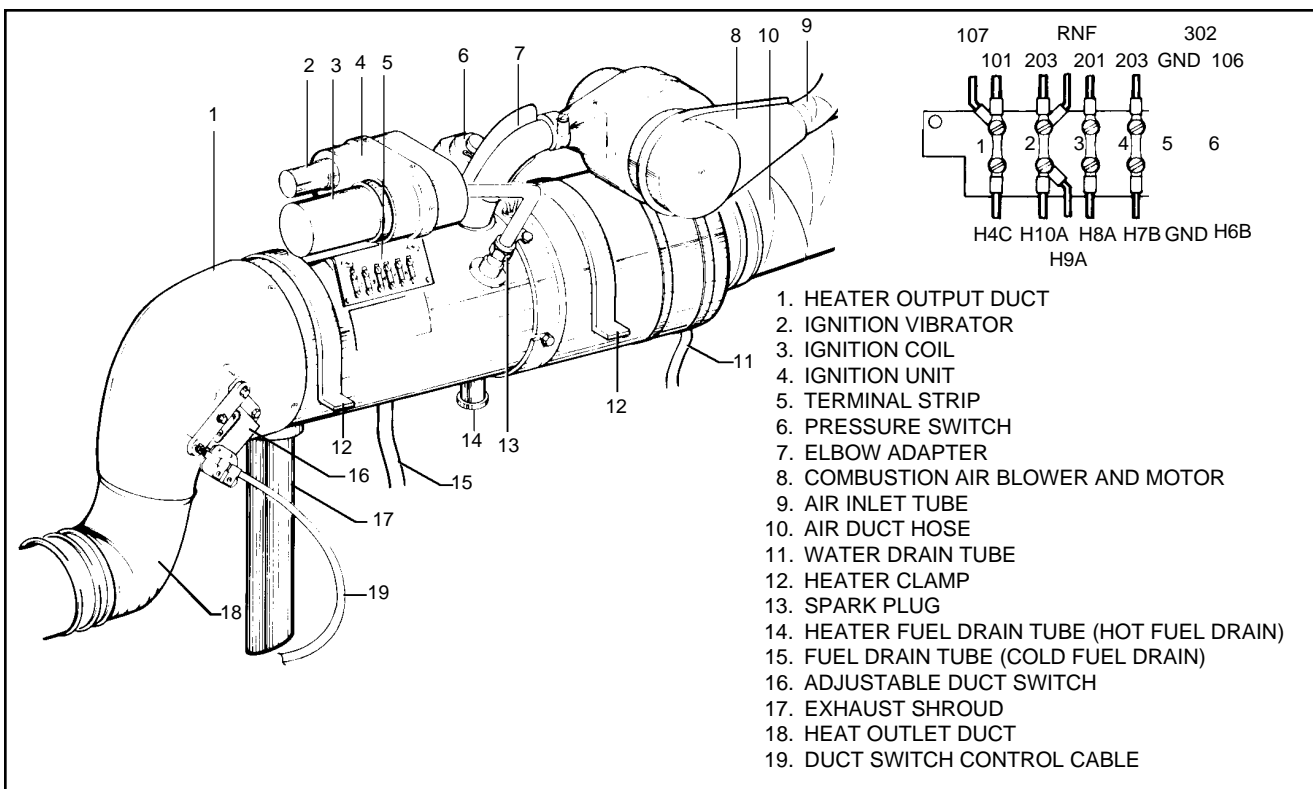

Figure 21-2. Heater and Combustion Air Blower Assembly
REMOVAL OF HEATER (Refer to Figure 21-2.)
INSTALLATION OF HEATER (Refer to Figure 21-2.)
9. Connect the electrical leads to the heater terminal block on the heater as shown in Figure 21-2.